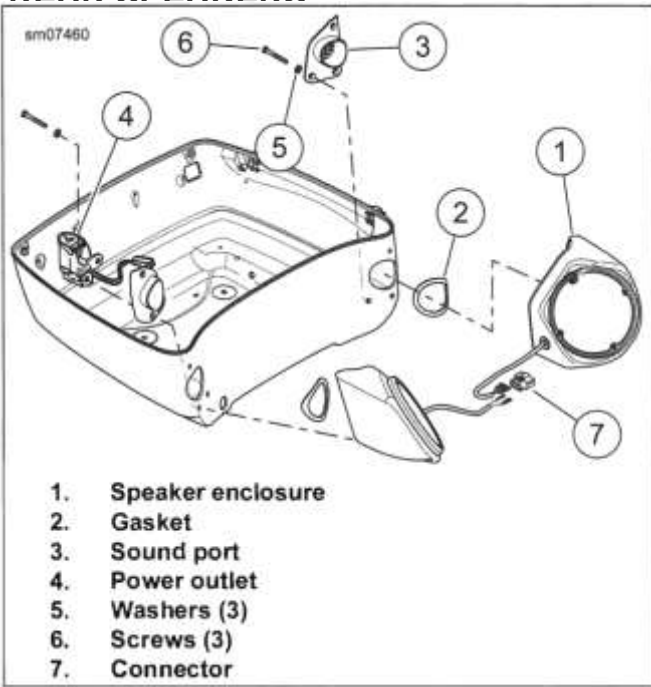

Figure 8-83. Speaker Enclosures
4. See Figure 8-83. Remove screws (6) with flat washers (5) to free speaker enclosure (and power outlet (4) right side only) from Tour-Pak.
5. Remove gasket (2) and sound port (3).
1. See Figure 8-83. Install sound port (3) and new gasket (2).
2. Install three screws (6) with flat washers (5) to secure speaker enclosure (1), sound port (3) and power outlet (4) (right side only) to Tour-Pak. Tighten.
- 5. See Figure 8-83. To separate left and right harnesses, remove terminals from connector (7).